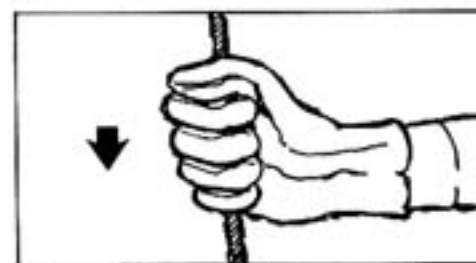

Figure 5
4. Test braking action (fall arrest) capability of the device by pulling out approximately 2 feet (.6m) of cable from the housing, then giving the cable a quick, hard, downward tug. The cable should stop and lock. (See Fig. 5)